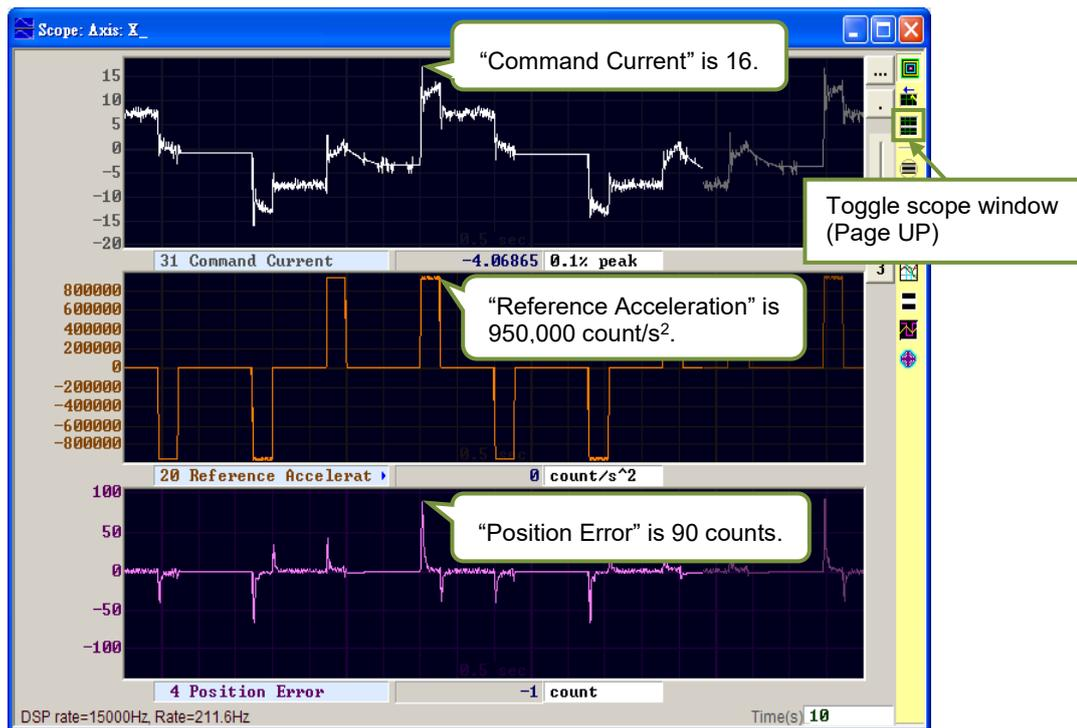

Figure 6.6.2.2 Trajectory result of motor movement
- Step 5. Observe and record the maximum value of "Reference Acceleration" in acceleration phase. In Figure 6.6.2.2, the value is 950,000 count/s².